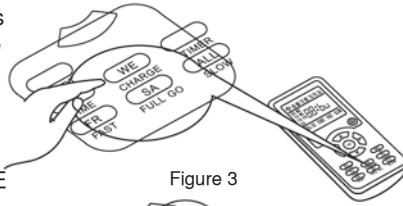

Figure 3
4. When you want to charge the machine, press the CHARGE key on the remote control. The machine will find the Docking Station in the valid scope and charge. (See Figure 3)